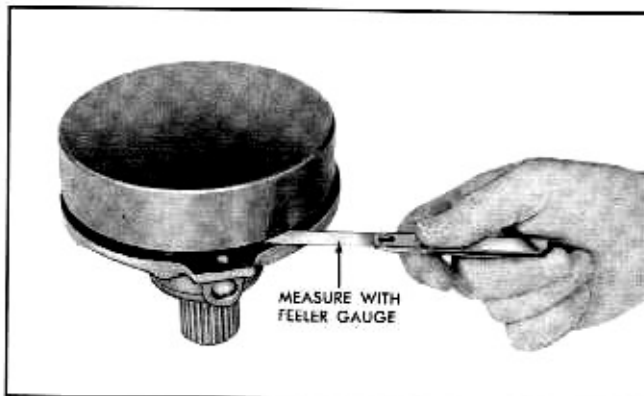

Fig. 4-34 Determining Shim Thickness Required
5. Place rear pinion bearing in rear pinion bearing retainer. Place tool J-8919 on retainer as shown (Fig. 4-34). Use feeler gauge as shown to determine correct shim thickness required for reassembly. Use chart (Fig. 4-35) to convert feeler gauge readings to shim specifications. If pinion shaft is marked use chart (Fig. 4-36) for correction.